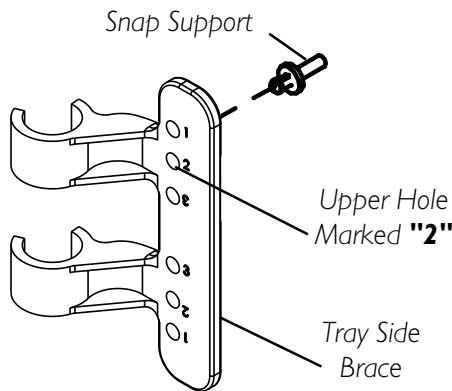

FIGURE 2 - INSTALLING SNAP SUPPORTS - SINGLE RELEASE WALKERS ONLY
INSTALLING SNAP SUPPORTS - SINGLE RELEASE WALKERS ONLY (FIGURE 2)
2. On the **INSIDE** of the tray side brace, attach the snap support into the location determined in STEP 1. Refer to FIGURE 2.